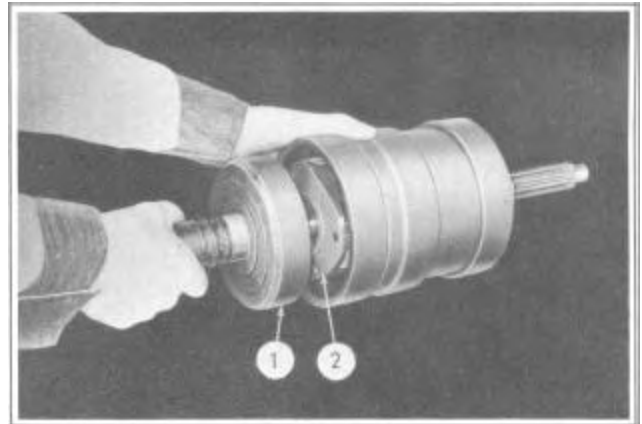

FIGURE 93
1. Place mainshaft assembly on a clean area on the work bench, remove Ring Gear Retaining Clip J-4668-3 and remove the front ring gear (1) by sliding it forward, disengaging it from the front planetary carrier pinions (2), Figure 93.